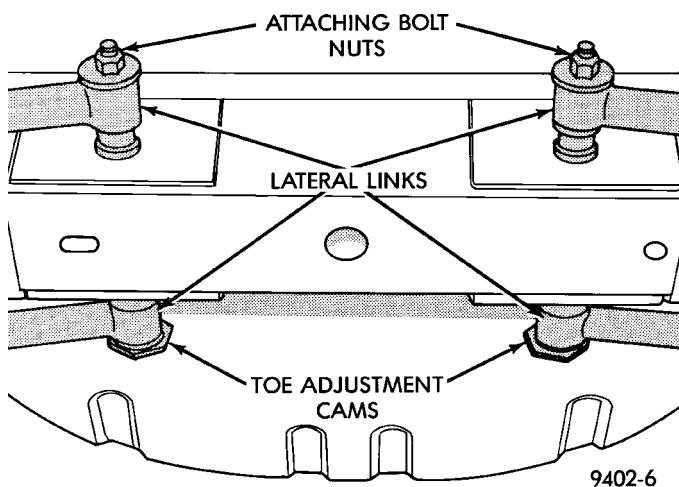

Fig. 23 Lateral Link Attachment To Crossmember
(4) Remove nut, bolt, washer and Toe adjustment cam, attaching lateral links requiring removal, from rear crossmember (Fig. 23). Then remove lateral links from vehicle.